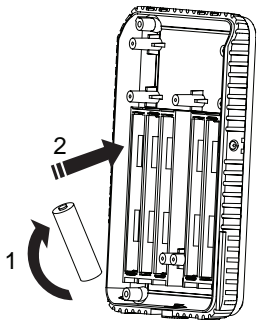

Figure 16c: Installing the Alkaline Batteries
4. Arrange alkaline batteries to match each of the alkaline frame batteries' polarity (+ or -) markings and slide them into each one of the alkaline battery frame compartments. Repeat until 12 batteries have been properly placed. Plug in the power harness. "Figure 16c: Installing the Alkaline Batteries" on page 32.